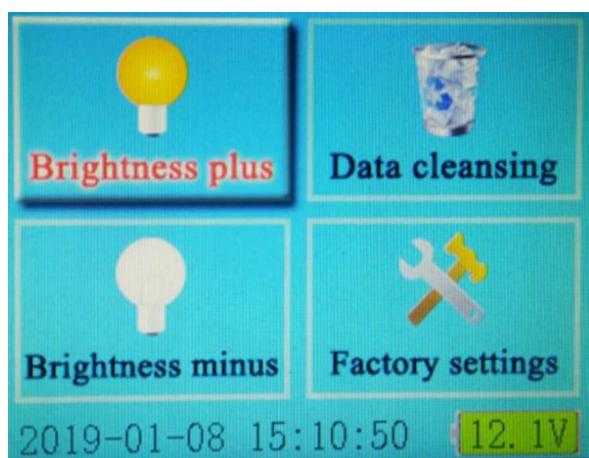

Figure 6
5) Move the cursor to the host parameters in figure 2, then press the select key to enter the interface as shown in figure 6: